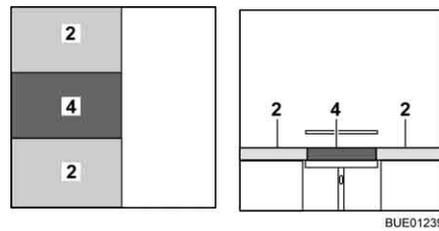

Fig. 90 After conversion
- Place the additional cushion (Fig. 90,4) between the seat cushions (Fig. 90,2).